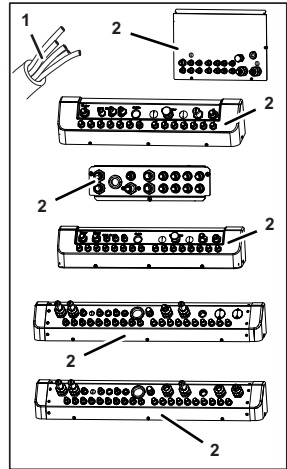

Figure 27
3. Disconnect the python (Figure 27/1) from the relevant connection of the unit's relevant connecting plate (Figure 27/2).
4. Disconnect the basic ingredient/beverage tubes from the relevant connection of the unit's relevant connecting plate (Figure 27/2).